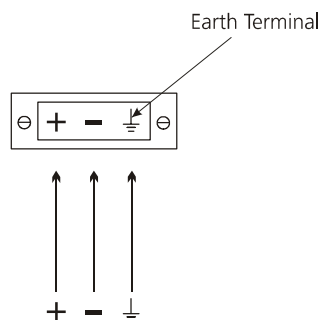

Figure 2-10 Separate Earth
- 2 For installations with a separate earth, connect the earth cable to the earth terminal (see Figure 2-10)